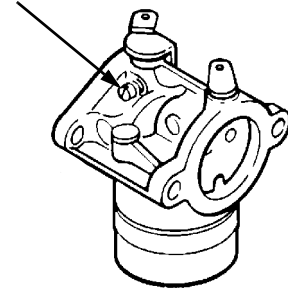

Figure 17
- **Idle Speed Setting:** Place the throttle control into the "idle" or "slow" position. Set the low idle speed to **1200 rpm** (± 75 rpm) by turning the low idle speed adjusting screw in or out. Check the speed using a tachometer (See Figure 17).